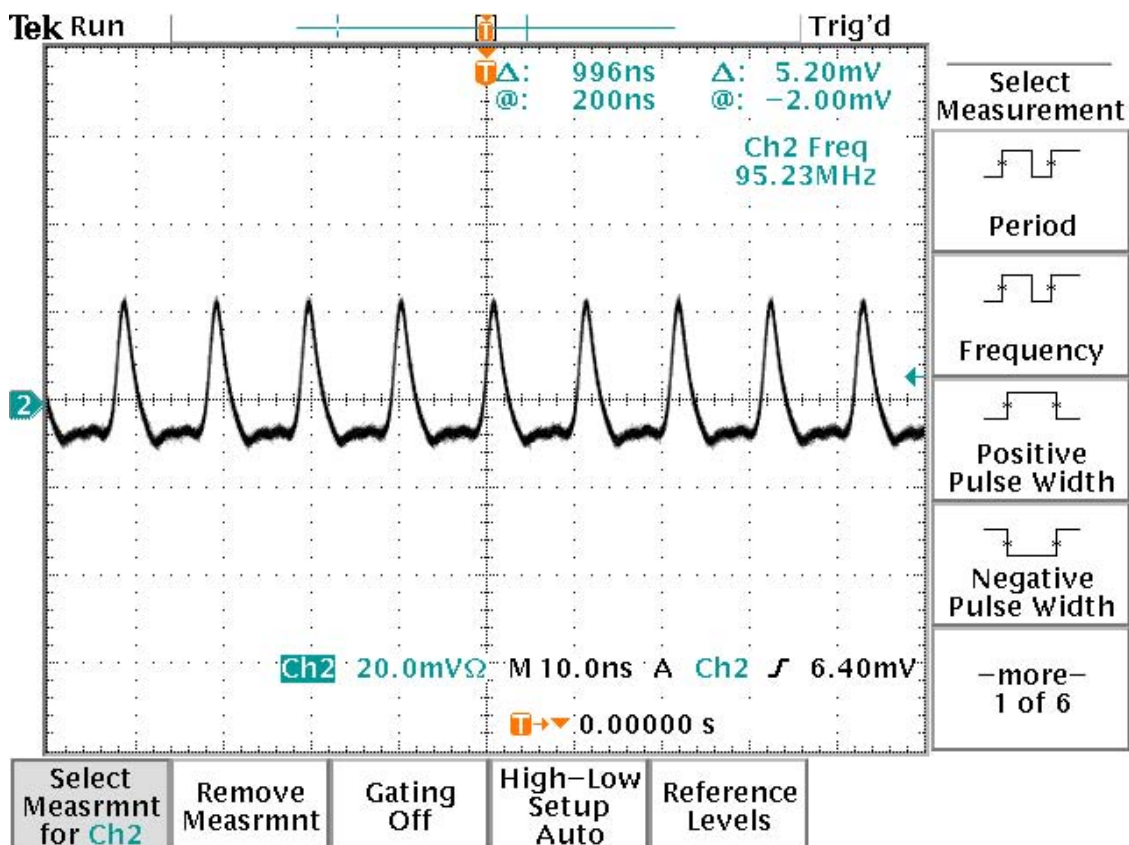

Figure 3. Analog signal (channel E) taken from the photodiode while mode-locking.
- To start mode-locking, shove second prism P8 inward using your thumb to increase the glass length by about 1-2 mm (Pump power at 4.5 W). Mode-locked operation can be verified from the broadening of the spectrum on the spectrometer (from 1 nm at CW to more than 5 or 10 nm at mode-locking) or the pulse train signal from channel E of the KMLabs USB board as shown in Figure 3 (or page 7 in the notebook).